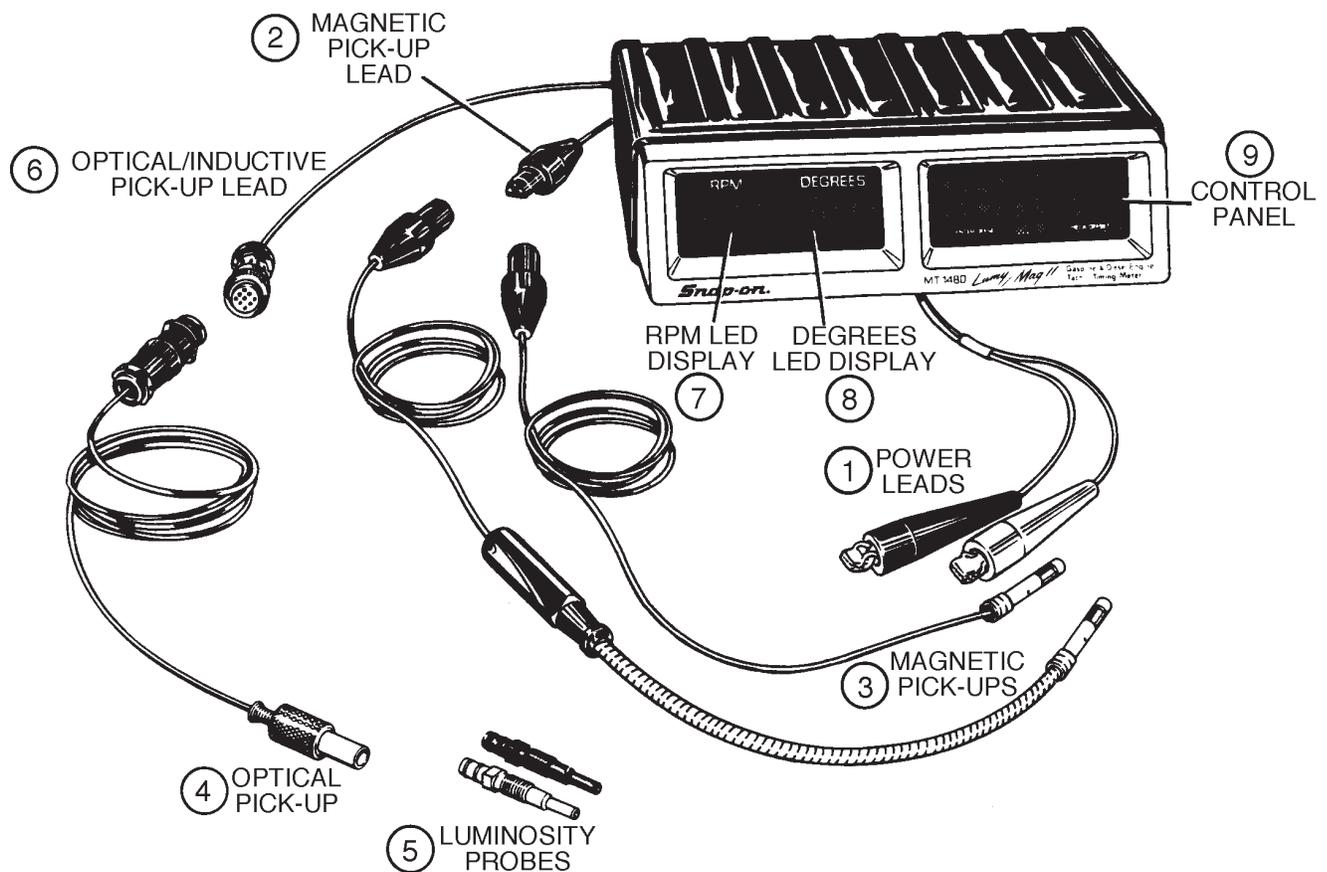

Figure 4-8. Snap-on Lummy/Mag II.
**E. ENGINE INJECTION PUMP TIMING PROCEDURES USING SNAP-ON LUMY/MAG II TIMING METER 12-VOLT DC (Figure 4-8)**